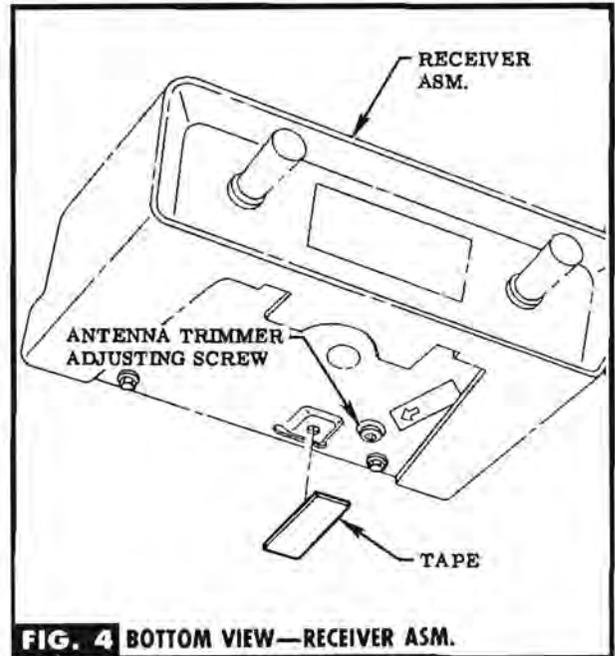

FIG. 4 BOTTOM VIEW—RECEIVER ASM.
STEP 11 COVER HOLE IN RECEIVER BOTTOM WITH TAPE, TO ELIMINATE EXCESSIVE LIGHT. SEE FIG. 4.